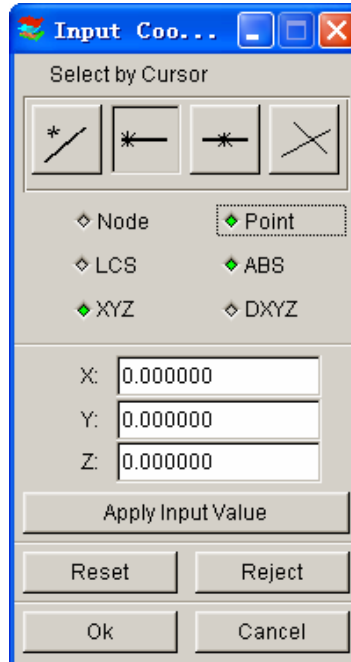

Figure 5.1.2 Input Coordinate
This function allows the user to draw a line. In eta/DYNAFORM, a line is formed by a sequence of points and is displayed by the set of straight-line segments between adjacent points in the sequence. To create a line, the user needs to define the location of the points. The INPUT COORDINATE dialog window, Figure 5.1.2, provides various ways to define the location of the points.
- Select three points in Figure 5.1.2, and refer to Section 5.1.1. When the third point is selected, the arc and its center will be generated.
- If POINT TO POINT MOVE is selected, the INPUT COORDINATE window, Figure 5.1.2, will be displayed for selecting two points. The translation will be based on the differences of three coordinates of selected points.